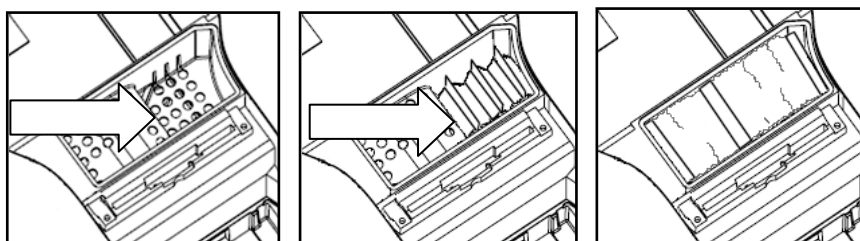

Figure 28 Stowing the desiccant packs
5. Place the first three packs of desiccant upright in the recess on the right of the desiccant holder then, one at a time, lay the three remaining packs flat in the upper part of the holder (Figure 28).